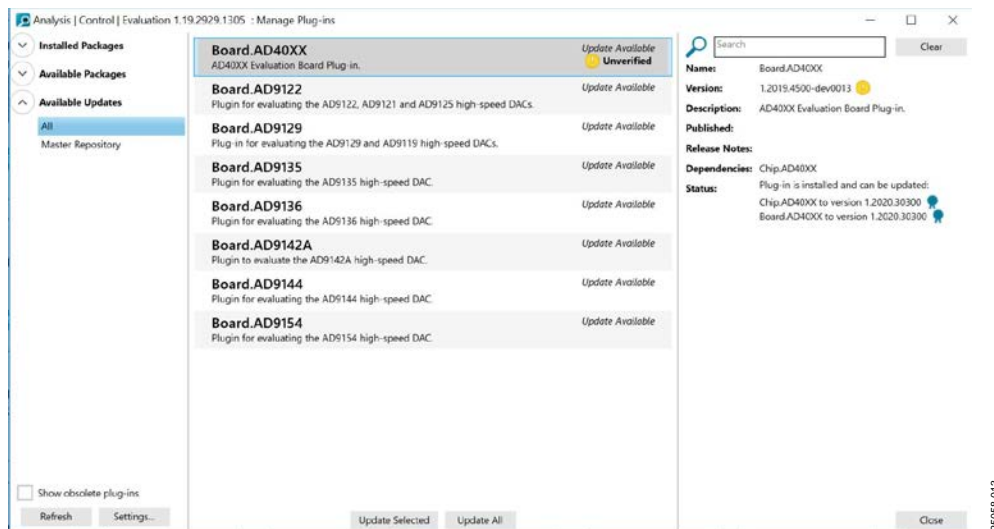

Figure 12. Updating AD4696 ACE Plugin
3. Select the AD4696 plugin and click **Update Selected** at the bottom of the plugin manager window to update the AD4696 plugin, as shown in Figure 12 (the AD4696 plugin is not shown as an option in Figure 12 because that plugin is not released yet).